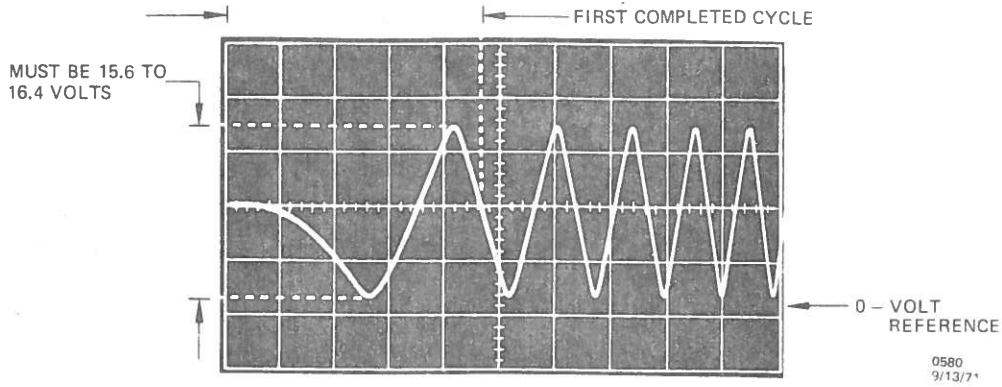

Figure 6-17. Added Positions 1 and 2 Signal, Cylinders 000-405 Seek-Seek
3. Measure magnitude of combined position signal within first completed cycle. Magnitude should be between 15.6 and 16.4 volts. See figure 6-17.